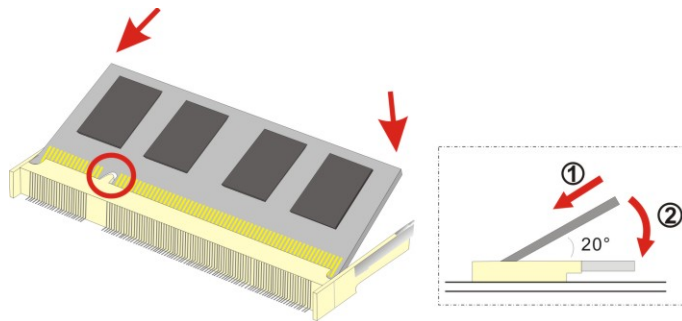

Figure 4-1: SO-DIMM Installation
To install an SO-DIMM, please follow the steps below and refer to Figure 4-1.
Step 3: Insert the SO-DIMM. Push the memory in at a 20° angle. (See Figure 4-1)
Step 4: Seat the SO-DIMM. Gently push downwards and the arms clip into place. (See Figure 4-1)